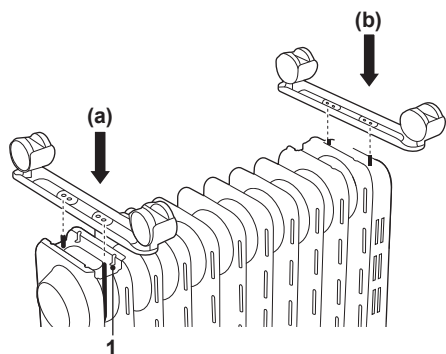

Fig. 1
2. As shown in figure 1, align the mounting hole of castor set and install it on the screw of the castor pad plate at the end of the radiator fin (a), and the other castor set is aligned to the screws mounted at the bottom of the control box (b).